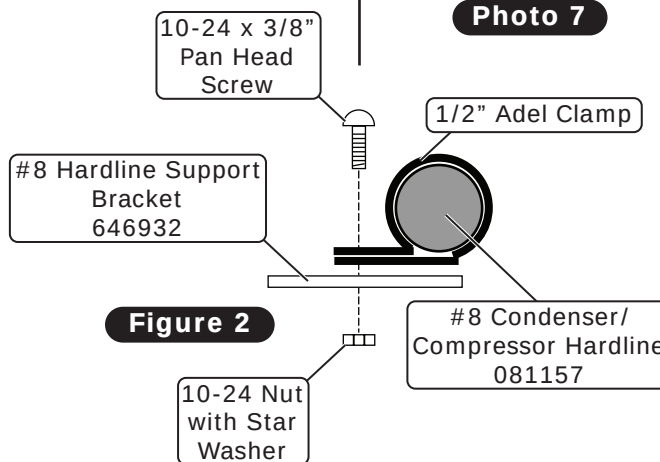

Figure 2
8. Secure the #8 condenser/compressor hardline to the #8 hardline support bracket using a 1/2" Adel clamp, a 10-24 x 3/8" pan head screw and a 10-24 nut with star washer (See Photo 7, and Figure 2, below). **NOTE: It is important to have enough clearance around the condenser and the hardlines. Make sure the condenser is not hitting the support braces between the grille and the condenser. If the condenser is hitting the support braces, loosen the bottom bolts of the support braces and move the bolts toward the front as much as possible. Make sure the hardlines are not hitting any other places on the core support (See Photo 8, below).**